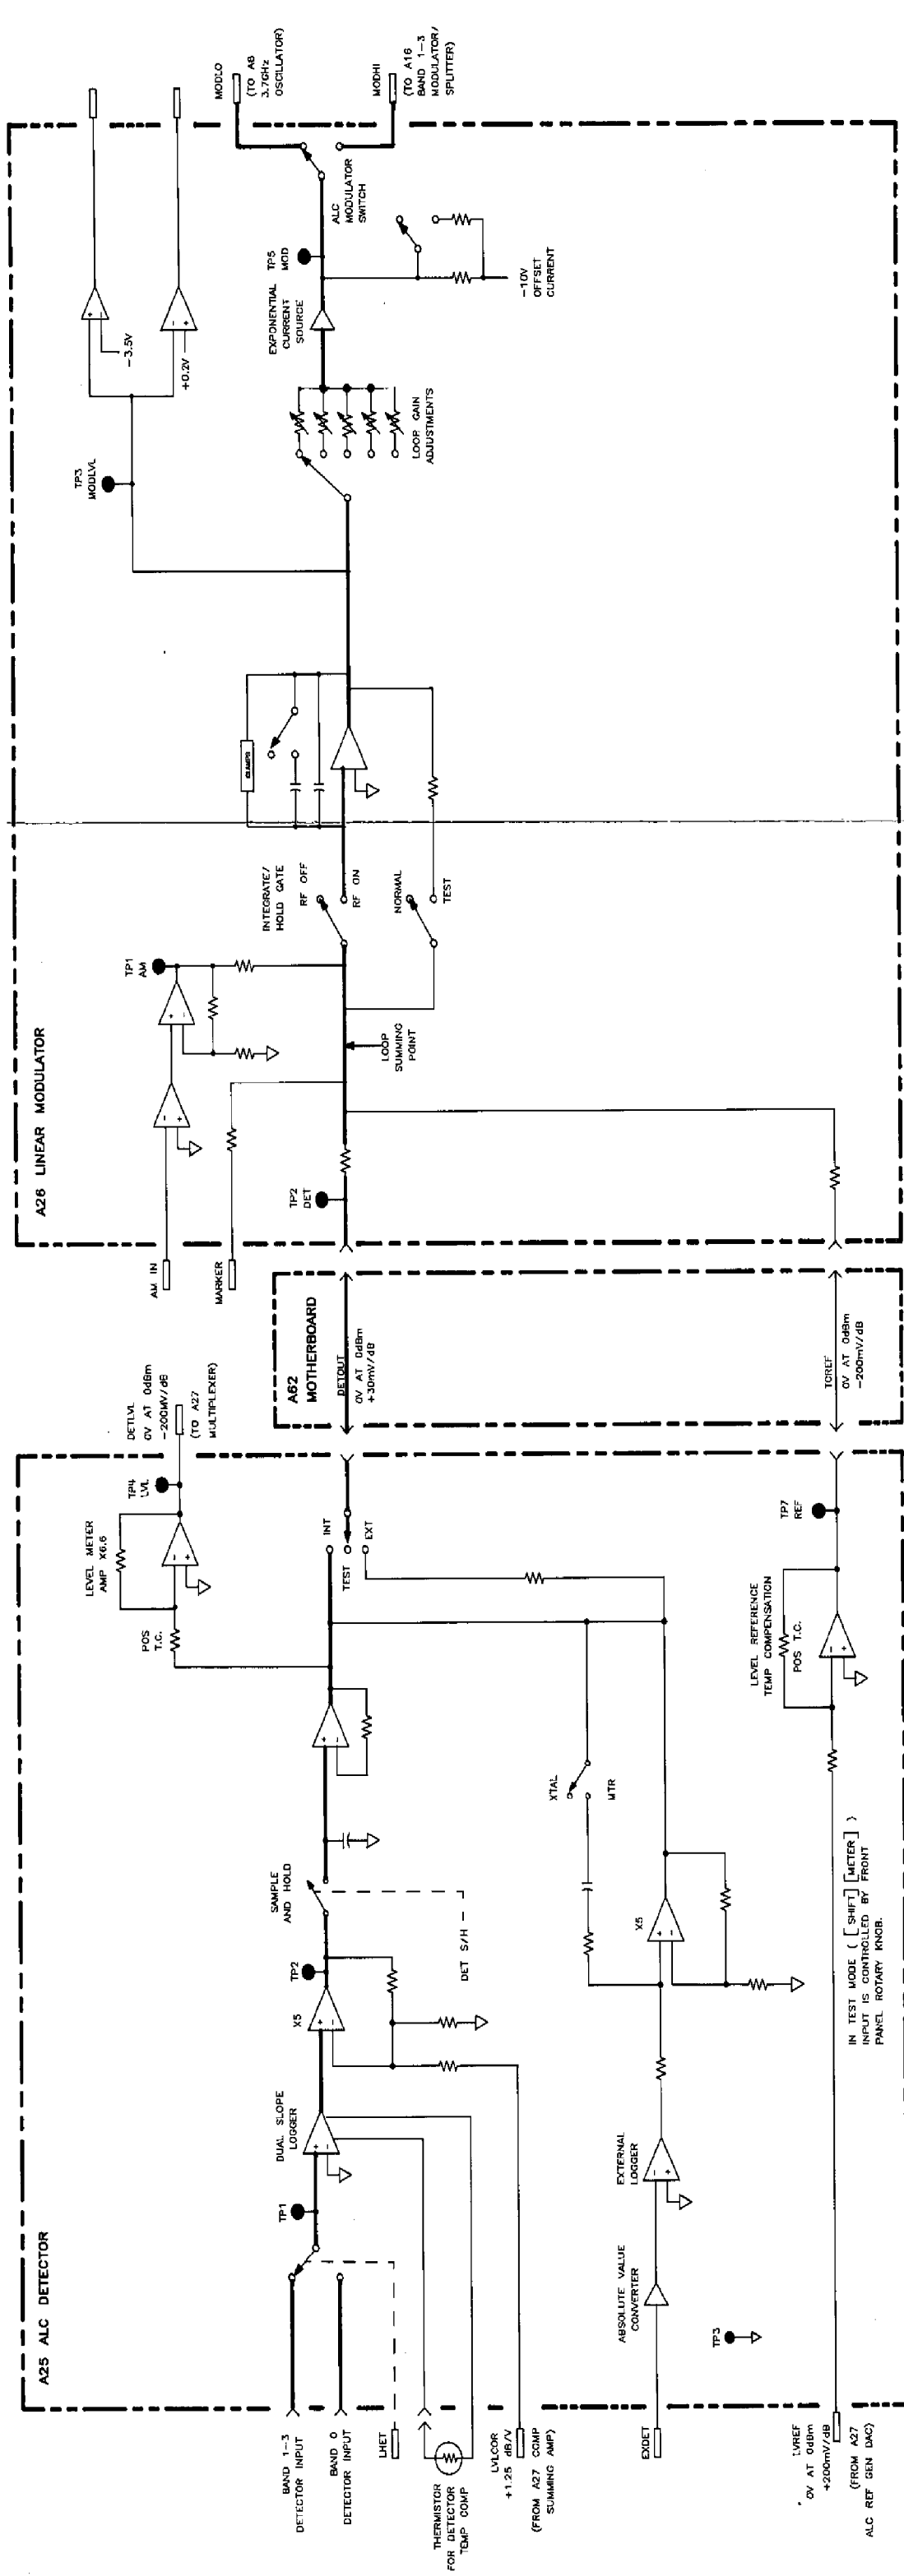

Figure H-7. ALC Loop Detailed Block Diagram
4. Isolate a defective assembly by tracing the voltage from the MODLVL output to the modulators, or by tracing the voltage from the high and low band detectors to the level meter amplifier output on the A25 ALC detector assembly. The AM signal path (on the A26 assembly) must be checked separately. Refer to Figure H-7.